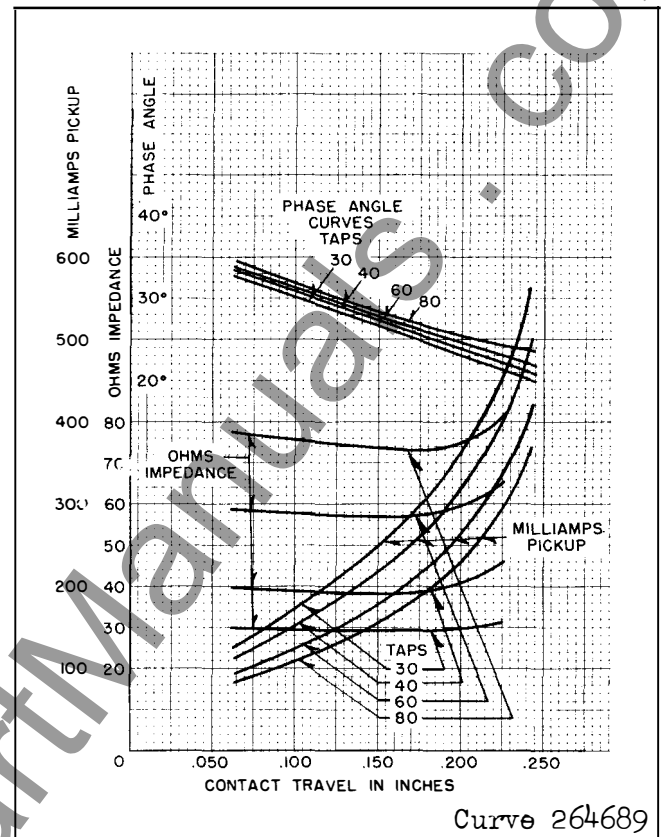
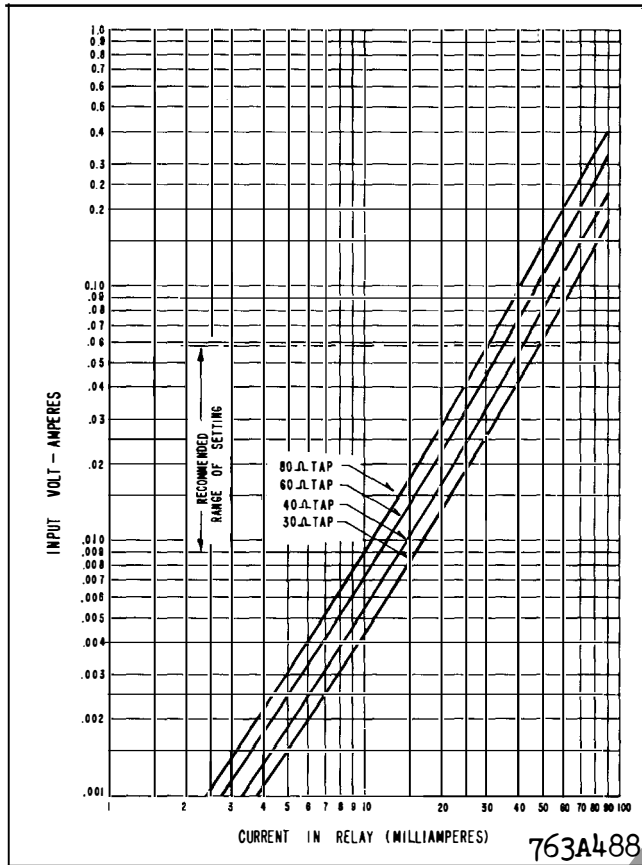
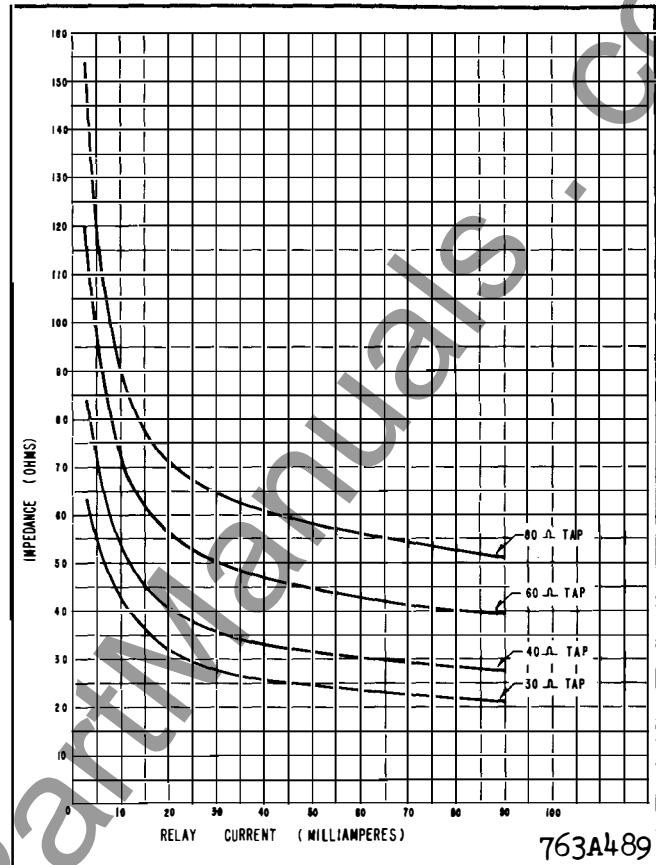

Fig. 4. Typical LC-1 Characteristic Curves.
Fig. 5. Typical LC-2 Volt-ampere Curve.
Fig. 6. Typical LC-2 Impedance Curve (Impedance is at 22° angle).
Characteristic curves are shown in figures 4, 5 and 6. The use of these curves is described under "Setting Calculations". LC-1 sensitivity is about 0.5 V.A. and up. The type LC-2 relay may be set to operate at an energy level ranging from .062 to .0085 volt-amperes. It may also be used to an energy level as low as .0025 V.A. with limitations which will be discussed. This range of application is shown on the typical volt-ampere curves of Fig. 5. Typical impedance curves are shown in Fig. 6. The phase angle of the relay is substantially constant (within 3°) at 22° .
Equation (3) is used to determine the current at which the relay trips for an internal fault on the bus of magnitude, I_p . Equation (4) is used to determine the primary current necessary to trip the relay when it has been adjusted to trip at a known value of relay current. It should be noted, however, that the relay impedance is not constant, but varies with relay current as indicated in Figs. 4 and 6. Therefore, in using equation (3), it is desirable to assume a value of relay impedance equal to the impedance tap, and make a first calculation of the relay current. When this is obtained, a new value of relay impedance should be selected from Fig. 4 or 6 and a second value of relay current calculated. Usually, it will not be necessary to continue the calculation any further, as the values resulting from the second calculation will be sufficiently accurate.
Reference to Figure 4 indicates that the relay can be set to operate at .102 (or 0.100 ampere on either the 60 ohm or 80 ohm tap. Since the desired value is near the minimum obtainable, choose the 60 ohm tap as being the closest match to the value of 57.8 for NZ_C , and make a second more accurate calibration. Using the 60 ohm tap and a contact travel of .075", values read from the curve give a pickup current $I_r = 0.100$: $Z_r = 58.3$ ohms, and an impedance angle of 33° for Z_r .
This is within the recommended setting range of the relay as indicated in Fig. 5.
From Fig. 6, on the 60 ohm tap, at $I_r = .0221$ $Z_r = 54.5 / 22^\circ = 50.6 + j20.4$.
At $I_r = .0232$ on the 60 ohm tap, Fig. 6 indicates that $Z_r = 54$ ohms. Since a value of $Z_r = 54.5$ was used in the above calculation, it is not necessary to carry the calculation any further.
of the connections should be checked. This can be done by circulating a high current from a low voltage high current test set through the Linear Coupler primaries. The polarity can be checked by testing the Linear Couplers in pairs. For example, if 500 amps. is passed from feeder to bus in circuit number 1 (figure 4) and from bus to feeder in circuit number 2, then no voltage should be measured by a suitable low reading voltmeter temporarily connected in series with the Relay-Coupler Circuit. If, however, a reading of 5 volts is obtained ($500 \times .005 \times 2$), it is an indication that one of the Coupler secondaries is reversed. If a zero reading is obtained, this checks the Couplers of circuits number 1 and 2 against each other. Circuit 2 should then be checked against circuit 3, circuit 3 against circuit 4, and so on until all circuits are checked. This should be done for each phase. A high resistance voltmeter should be used, preferably one having a resistance of 1000 ohms per volt, or more. A similar check may be made using load currents in the circuit if these are high enough to give a satisfactory voltage indication.